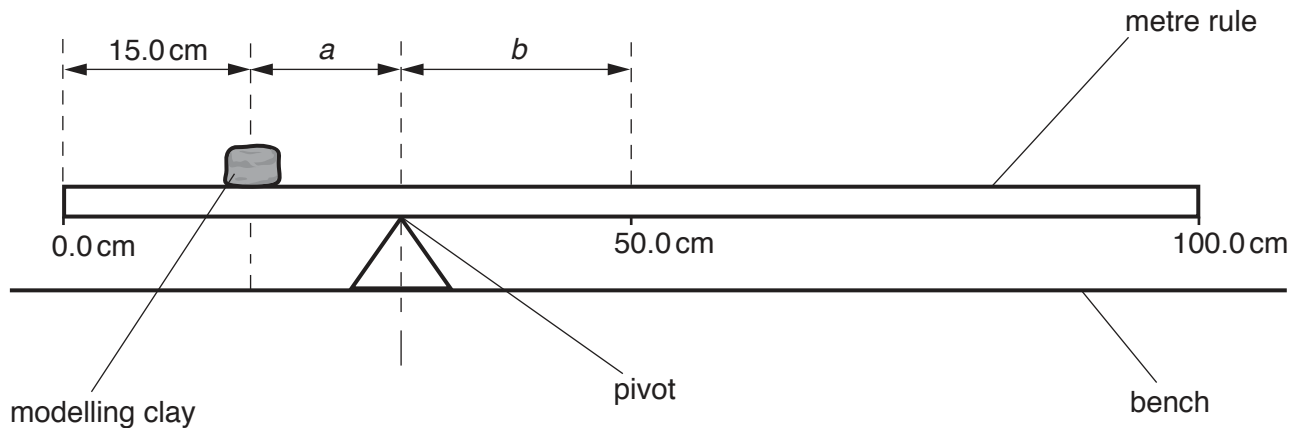

Fig. 3.1 (not to scale)
- (a) Mould the piece of modelling clay until it is roughly cube-shaped. Place the modelling clay on the metre rule so that its centre is 15.0 cm from the zero end of the rule, as shown in Fig. 3.1.
- (i) Adjust the position of the pivot so that the rule balances on it. Record to the nearest 0.1 cm the distance a from the centre of the modelling clay to the pivot as shown in Fig. 3.1.
- (ii) Record to the nearest 0.1 cm the distance b from the pivot to the 50.0 cm mark, as shown in Fig. 3.1.